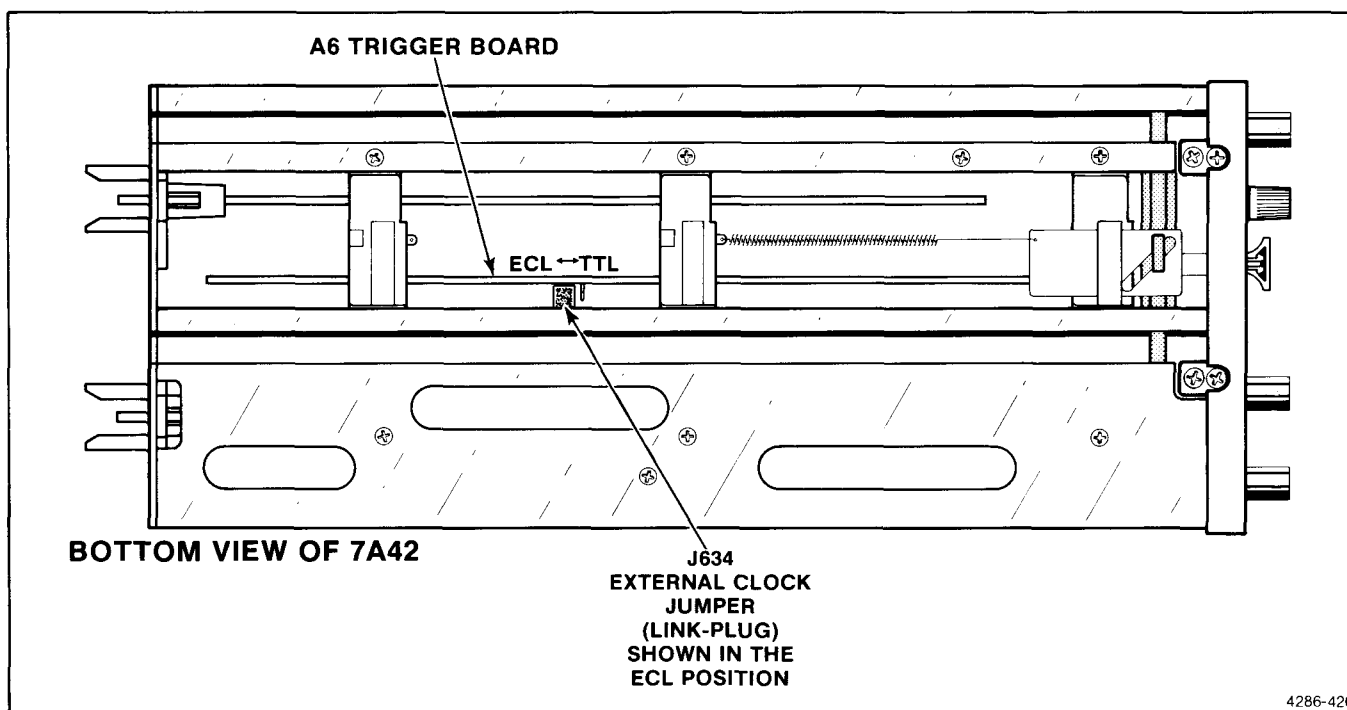

Figure 4-6. Location of J634 External Clock Jumper (link-plug) on the A6 Trigger Board.
- ff. Remove the 7A42 from the oscilloscope mainframe and move the J634 External Clock Jumper (link-plug) from the ECL position to the TTL position. Refer to Figure 4-6. Reinstall the 7A42 in the oscilloscope mainframe, and turn the oscilloscope mainframe Power back on.
- s. Turn the oscilloscope mainframe Power off. Remove the 7A42 from the oscilloscope mainframe. Move the J634 External Clock Jumper (link-plug) to the TTL position. Refer to Figure 4-6. Replace the 7A42 in the oscilloscope mainframe, and turn the Power on.